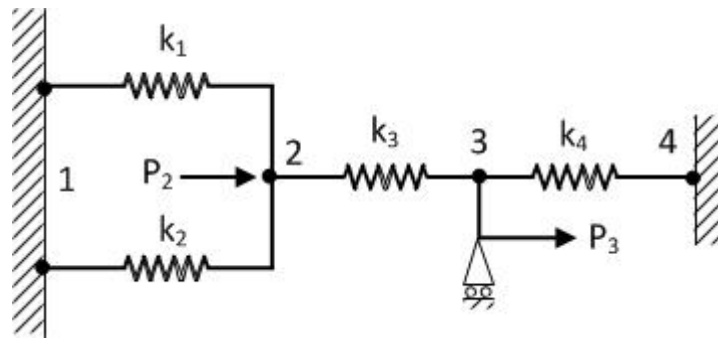

Figure 1
- Q.4 (a)** Derive the Potential Energy equation for the spring system shown in figure 1. **07**